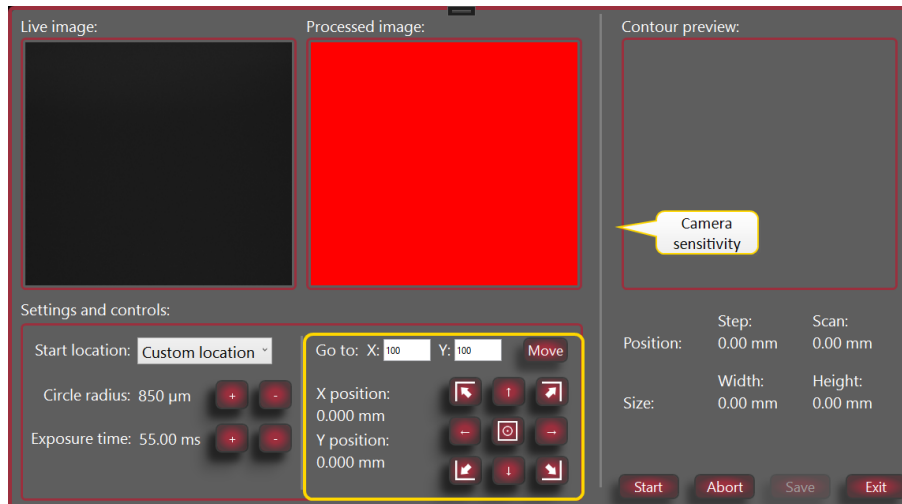

Figure 3-27 Polygon scan window with custom location selction part
- 4.3. Select **Custom location** to start at selected position. Additional navigation buttons will pop up, see **Figure 3-27 on the facing page**.